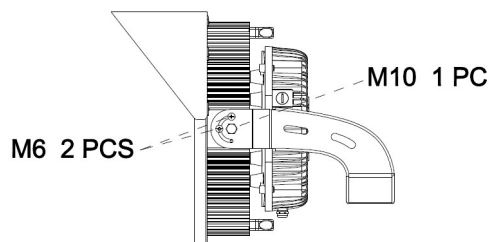

FIG.17
- 4) To tighten the bracket, make certain to use 2 PCS M6 screws in the slot hole on each side of the bracket. (See FIG.17). Additional M6 screws can be found in the packaging or on the fixtures.